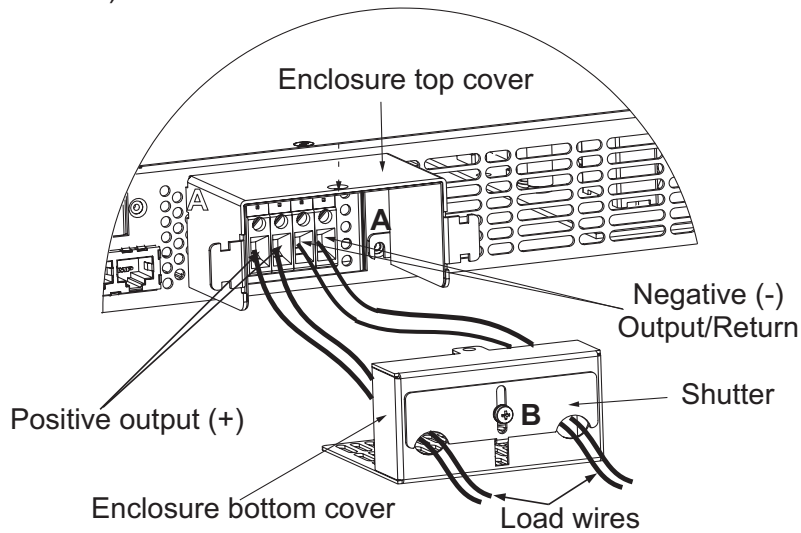

Fig.3-8: Load wires connection to the output connector
(Refer to Fig.3-8, 3-9 for installation instructions.)
4. Insert stripped wires into enclosure bottom cover opening and then to the terminals, tighten the terminals screws securely (see fig.3-8)